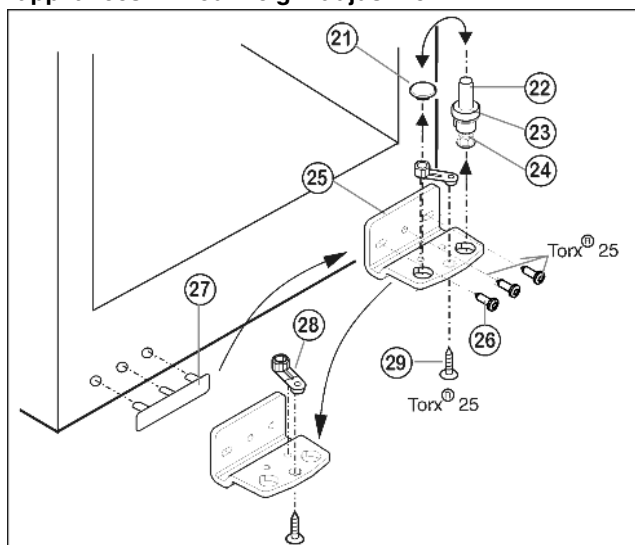

Fig. 6
- Lift out the bearing pin *Fig. 6 (22)* together with washer *Fig. 6 (23)* and foot *Fig. 6 (24)*.
- Lift off the stopper *Fig. 6 (21)*.
- Unscrew *Fig. 6 (26)* the turn hinge *Fig. 6 (25)*.
- Unscrew *Fig. 6 (29)* the bearing element *Fig. 6 (28)*, transfer it to the opposite location hole of the turn hinge and screw it firmly into place.
- Carefully lift off the cover on the handle side *Fig. 6 (27)* and transfer it to the opposite side.
- Screw the turn hinge *Fig. 6 (25)* firmly into place on the new hinge side, possibly using a cordless screwdriver (**with 4 Nm**).
- Re-insert the stopper *Fig. 6 (21)* into the other hole.
- Re-insert the bearing pin *Fig. 6 (22)* together with washer and foot. In so doing, pay attention that the locating lug points backwards